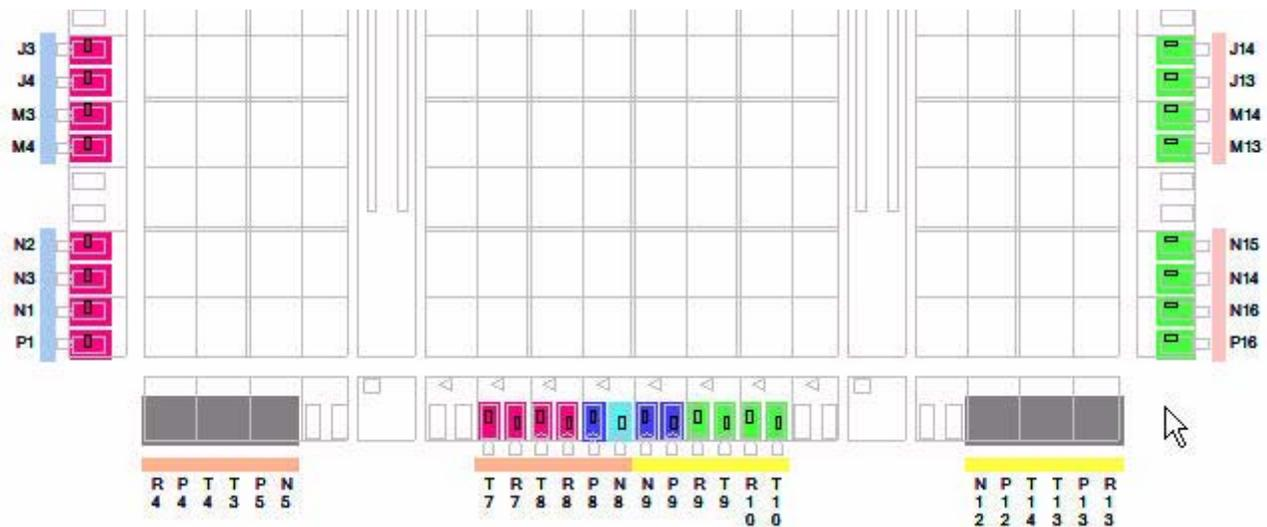

Figure 8: Viewing pin placement
10. Import the CSV file (File -> Import) and view your placement (Figure 8).